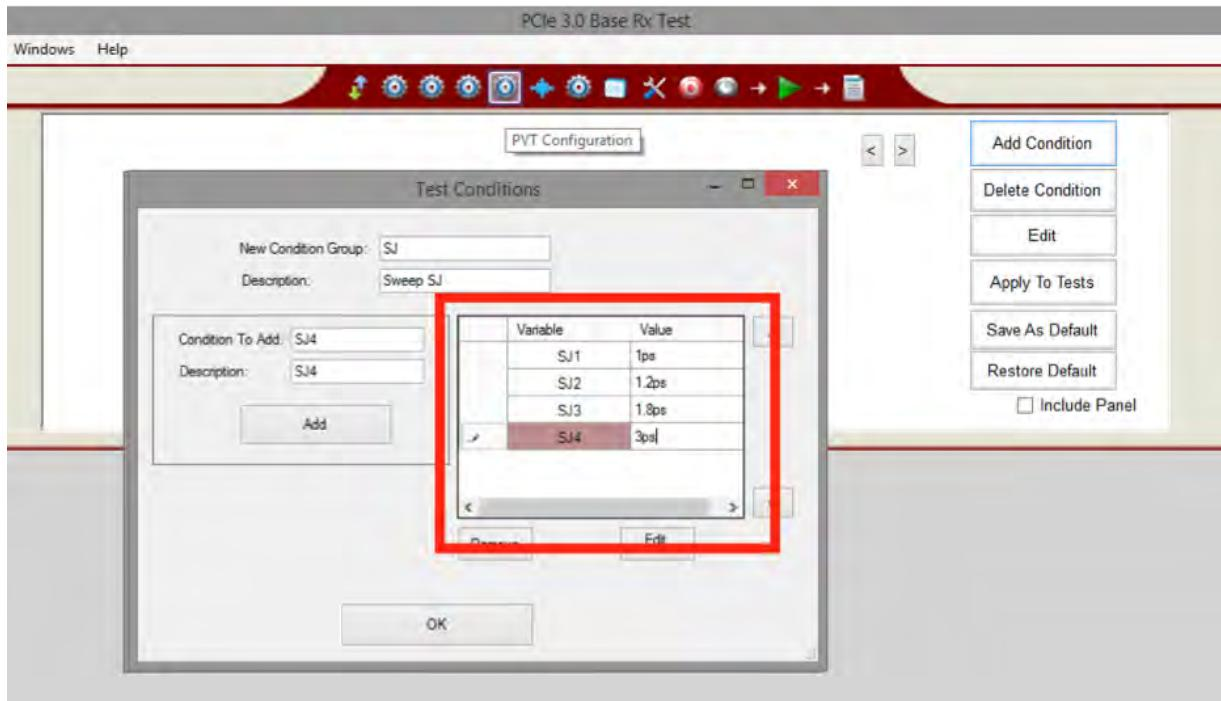

FIGURE 109 SET EACH PVT PARAMETER VALUE IN SEQUENCE
3. Enter one or more parameter value for the steps of the test condition sequence. Take care to include the suffix for the units, and to assign values which are appropriate for that parameter according to the PCIE3 specification. See Figure 109, which shows four steps for parameter ‘SJ’, named ‘SJ1’, ‘SJ2’, ‘SJ3’ and ‘SJ4’, and assigned values 1ps, 1.2ps, 1.8ps and 3ps, respectively. When finished editing the Test Conditions, click on “OK”. Note that individual steps may be selected, then edited or removed from the list.